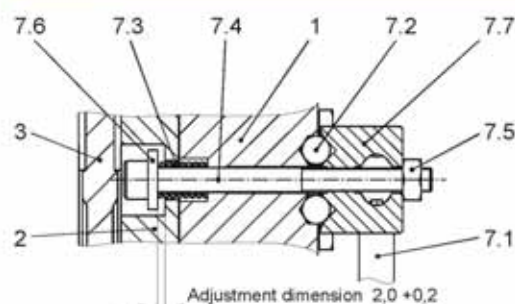

Fig. 8
By lifting both connection pieces (7.7) up from the steel balls (7.2), both cap screws (7.4) inc. washers (7.6) together with the armature disk (2) are pulled against the coil carrier (1) (Fig. 8). After this, the rotor (3) is free and the brake is released.